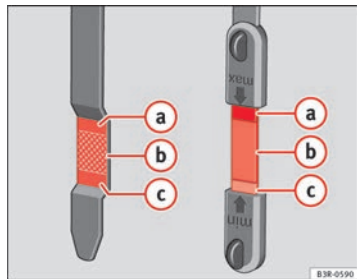

Fig. 177 Markings on oil dipstick
- Then pull it out once more and check the oil level ⇒ page 232, fig. 177. If the oil level is too low, add more engine oil ⇒ page 233.